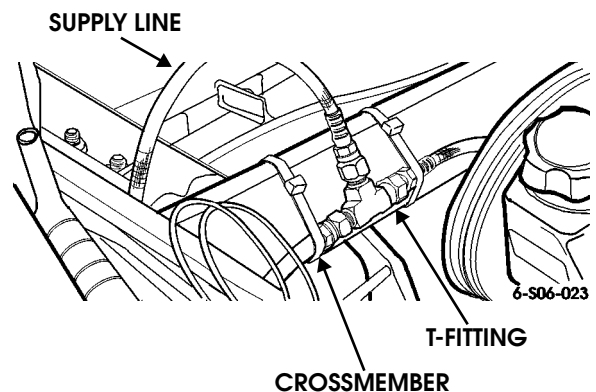

Figure 6-72: Supply Hose Connection
2. Disconnect supply hose at T-fitting secured to front frame crossmember (Figure 6-72).